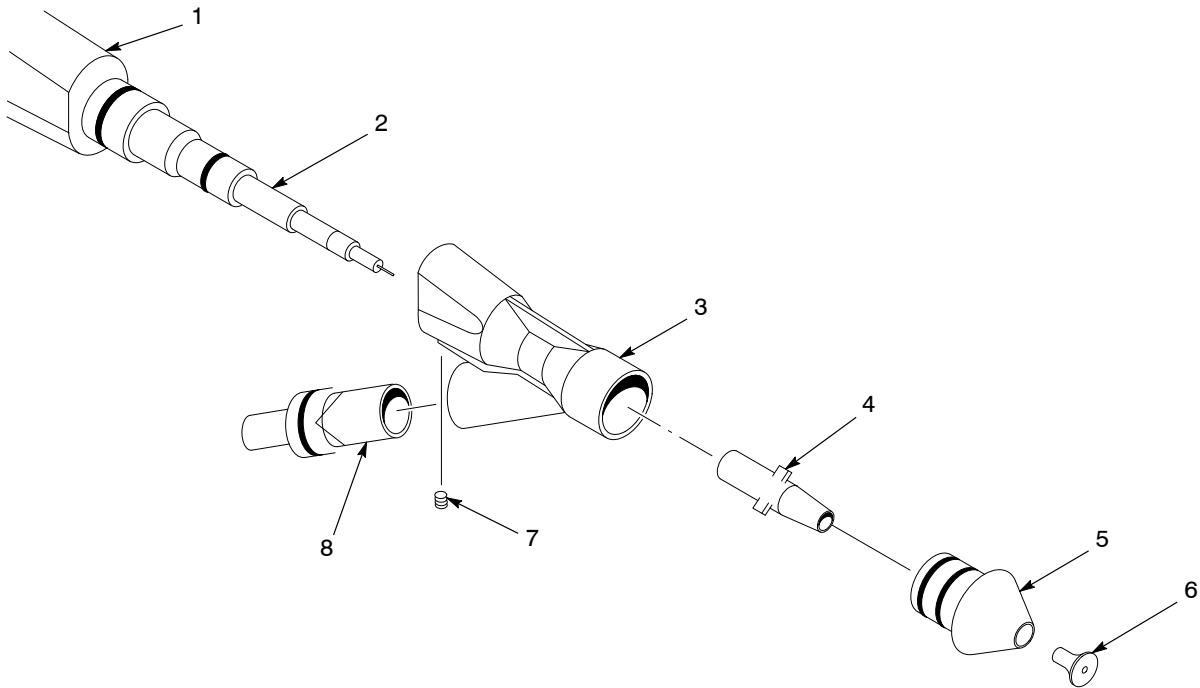

Figure 3 Daily Maintenance
2. See Figure 3. Remove the nozzle parts (items 4–6) from the spray gun.
3. Loosen the set screw (7) and pull the powder inlet body (3) straight off the gun.
5. Blow powder off the resistor probe (2) and extension (1). Wipe them with a clean, dry cloth. Carefully remove fused powder from the parts with a wooden or plastic dowel or similar tool. Do not use tools that will scratch the plastic. Powder will build up and impact-fuse on any scratches.
7. Assemble the spray gun. Rotate items (4), (5), (6), and (8) at least 30° from their previous position to prevent uneven wear and lopsided patterns.